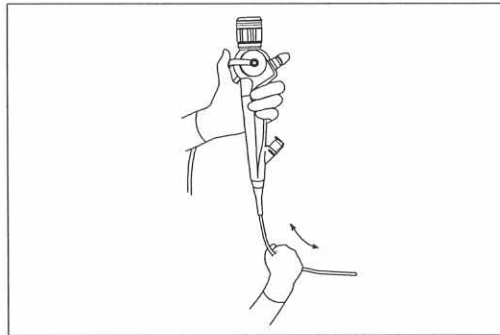

Figure 3.2
4. Carefully run your fingertips over the entire length of the Insertion Tube. Inspect for any protruding objects or other irregularities. (See Figure 3.2)